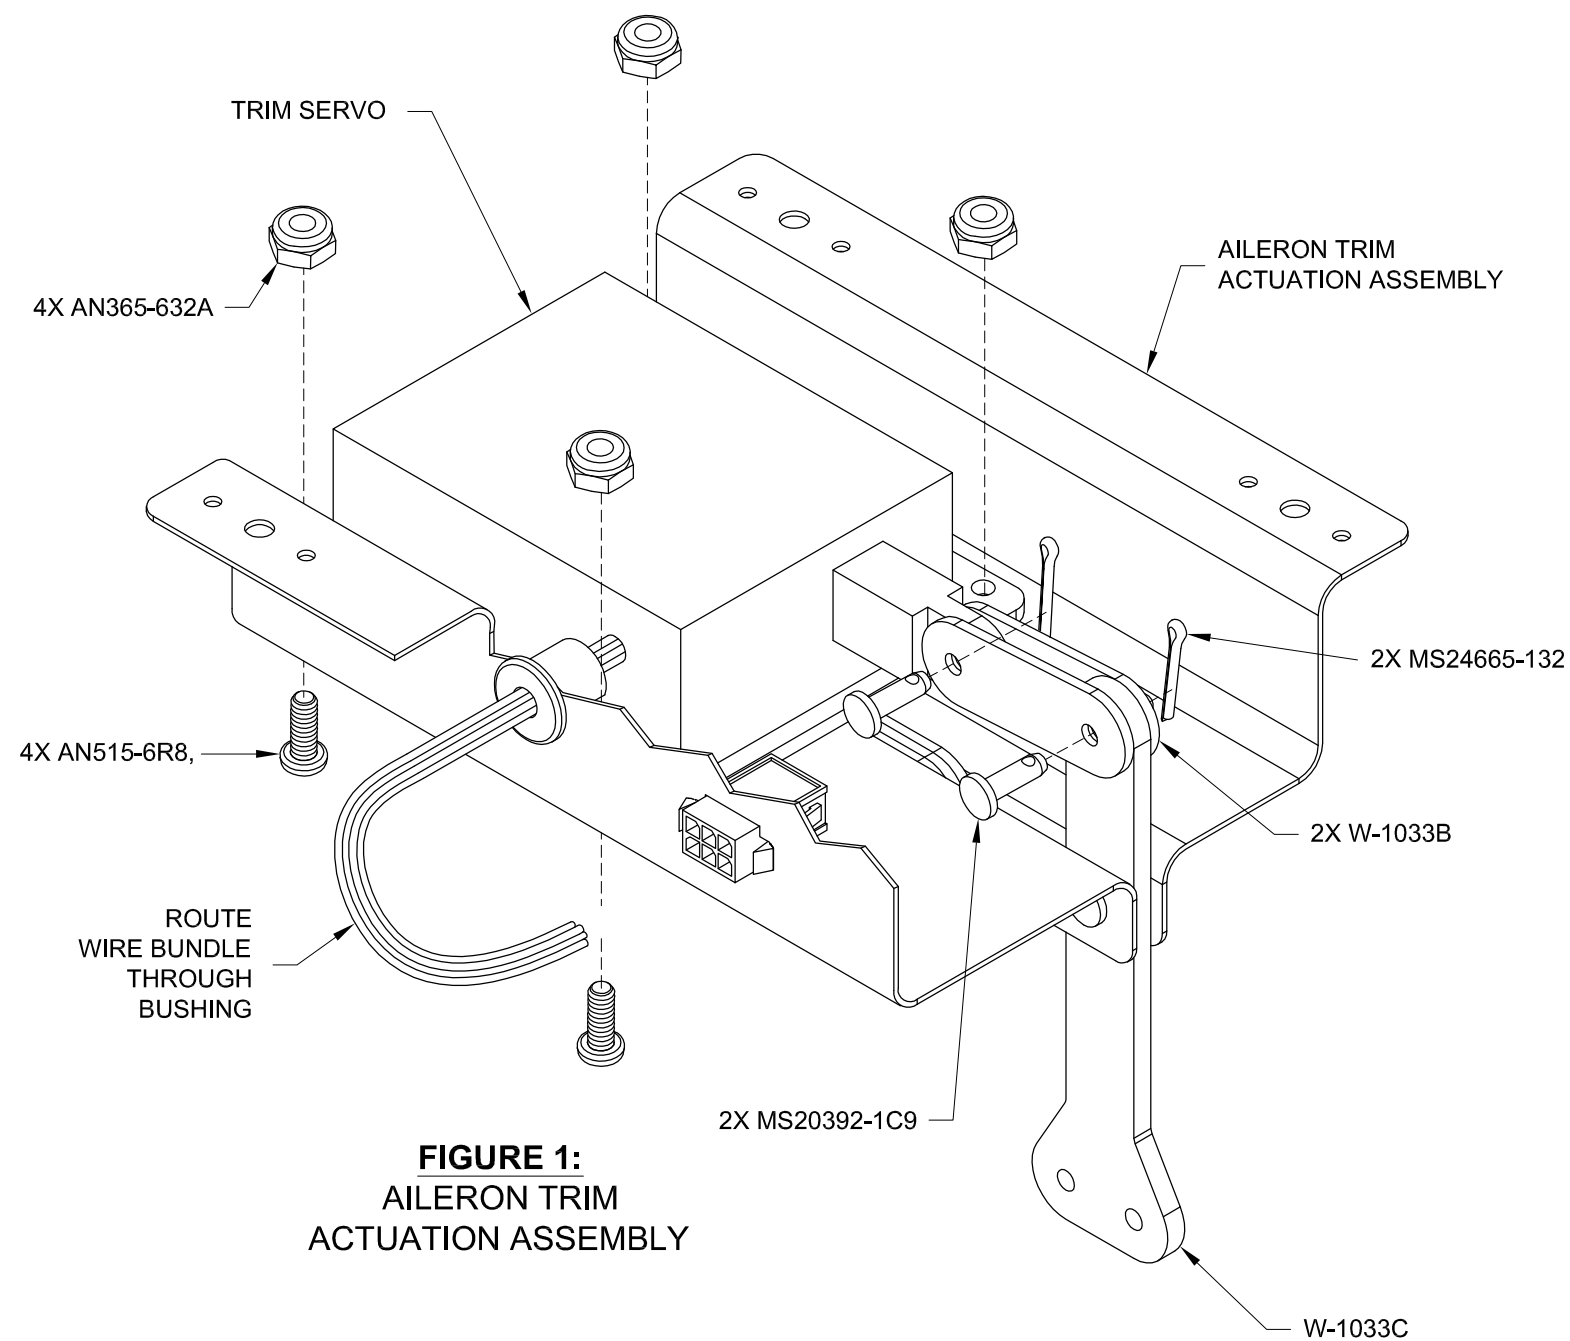

FIGURE 1:
Step 2: Assemble the Aileron Trim Actuation Assembly as shown in Figure 1.